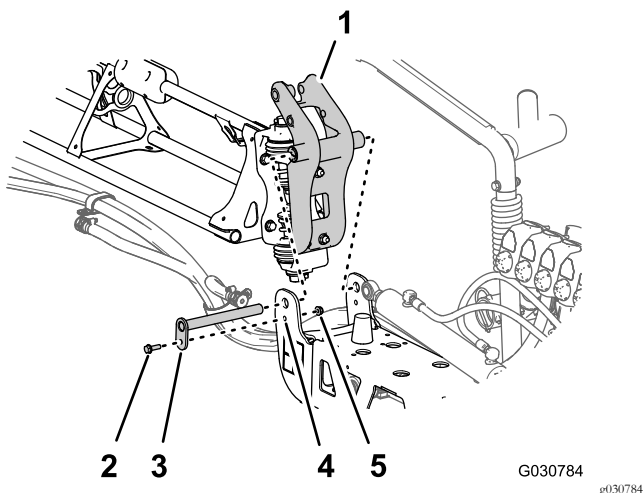

Figure 121
3. Align the bushings in the pivot fitting with the holes in the flanges of the pivot bracket at the end of the center-spray section (Figure 121).